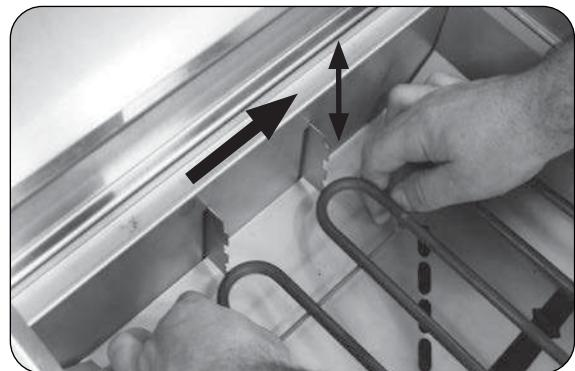

Fig. 18-1 Adjust cooking element
2. Grasp the cool cooking element and apply pressure towards the right of the grill. Once it clears the tab, raise or lower it to the desired height. (See Fig. 18-1.) Be sure it securely rests in position.